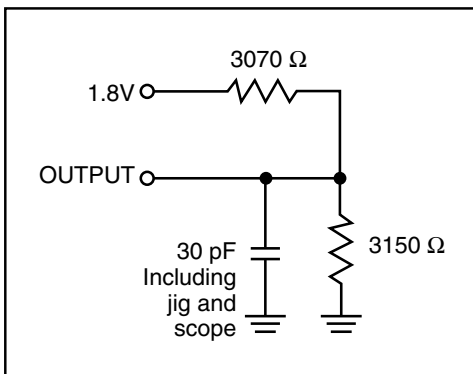

Figure 1
| Output Load                                 | See Figures 1 and 2     |
- Test conditions assume signal transition times of 5 ns or less, timing reference levels of 0.9V, input pulse levels of 0.4 to 1.4V and output loading specified in Figure 1.
- Test conditions assume signal transition times of 5 ns or less, timing reference levels of 0.9V, input pulse levels of 0.4V to 1.4V and output loading specified in Figure 1.